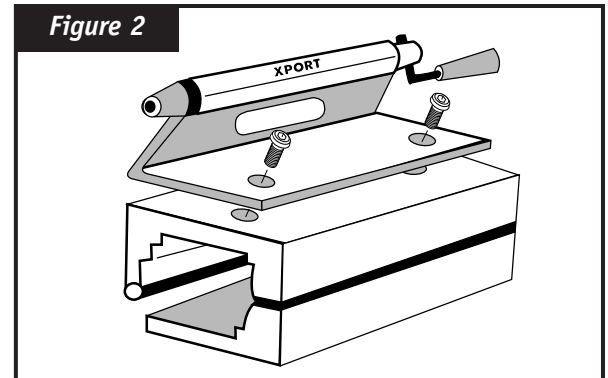

Figure 2
1. Attach one Universal Bike Mount (**K**) to each Fork Mount Block using the included 5mm hex bolts (**J**) (see figure 2).